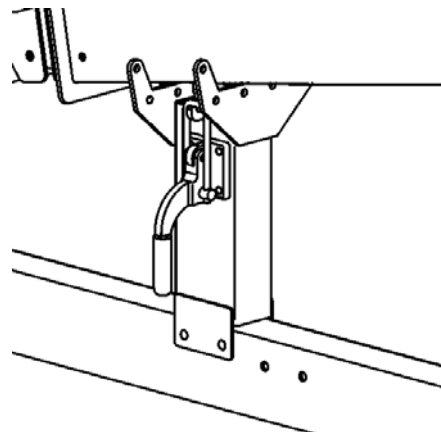

Figure 3-4. Boom Travel Latch
- ❑ Pull the latch release on the boom travel latches, raise the latch handle and swing the latch U-bolt down. Refer to figure 3-4.